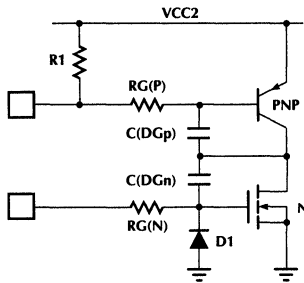

Figure 14. Causes of Cross-conduction.
Since the output section in a full bridge application consists of three half-H switches, cross-conduction can occur. Cross-conduction is the condition where an N-FET and PNP in the same phase of the bridge conduct simultaneously. This could happen under two conditions (see figure 14):
In Condition 2 above, the PNP is pulled up inside the ML4410 with a 50KΩ resistor. If the current through C(CB) is greater than 0.7V + 50K when the N-FET turns on, the PNP could turn on simultaneously, causing cross-conduction. Adding R1 as shown in figure 14 eliminates this. The size of R1 will depend on the fall time of the phase voltage, and the size of the C(CB).
In higher power applications, when large MOSFETs are used, the N-Output can be pulled below GND, causing the internal substrate diode (D_{int}) to conduct. The negative substrate current should be limited to less than 2mA, which can be done by adding $D1$ as shown in figure 14. $D1$ prevents the gate from going below 0.7V, limiting the substrate current to: